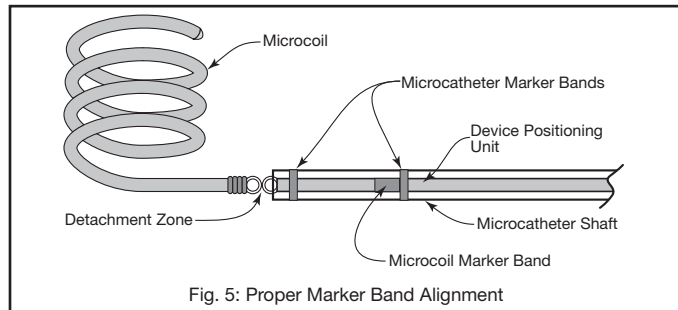

Fig. 5: Proper Marker Band Alignment
1. The proper alignment of the marker bands is illustrated in Figure 5. The infusion microcatheter has two distal tip marker bands located three (3) cm apart. The Microcoil System has a distal marker band three (3) mm from the detachment mechanism. To obtain proper positioning of the Microcoil System for detachment under fluoroscopic guidance, align the radiopaque marker on the DPU wire just past the proximal marker band on the tip of the microcatheter.